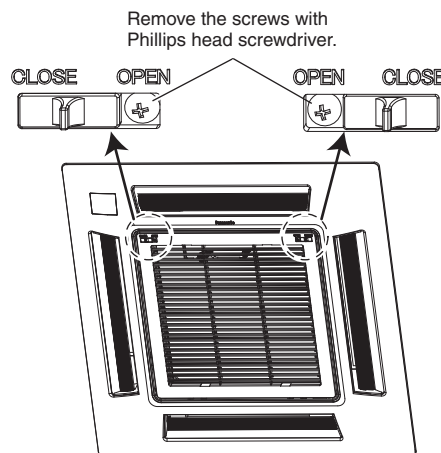

Fig. 7-1
- (1) Remove the air-intake grille and air filter from the decorative panel.
- a) Remove the 2 screws on the latch of the air-intake grille. (Fig. 7-1) (Reattach the air-intake grille after installation of the decorative panel.)